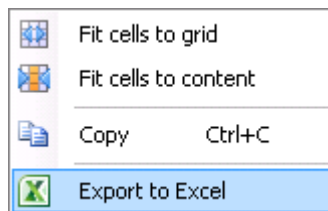

Figure 7-33. Query results context menu
7. In the **Result** table, right-click to open the context menu, see Figure 7-33.